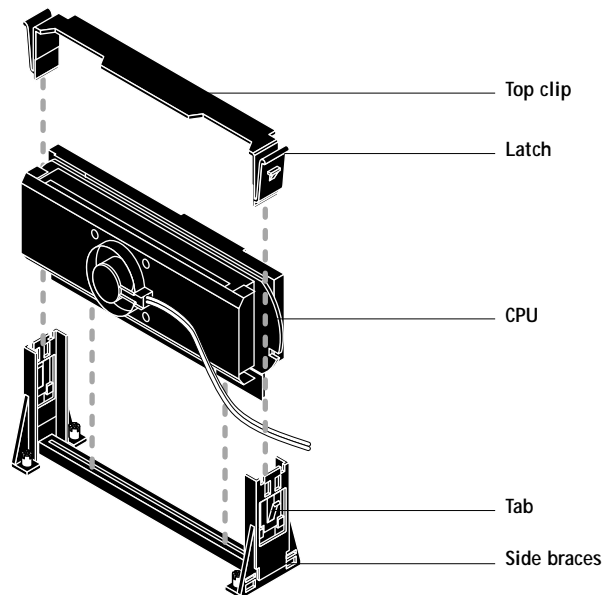

FIGURE 4-21 Replacing the CPU
3. Insert the top clip into each side of the braces to secure the CPU. The top clip should be positioned as shown in Figure 4-21 on page 4-32.